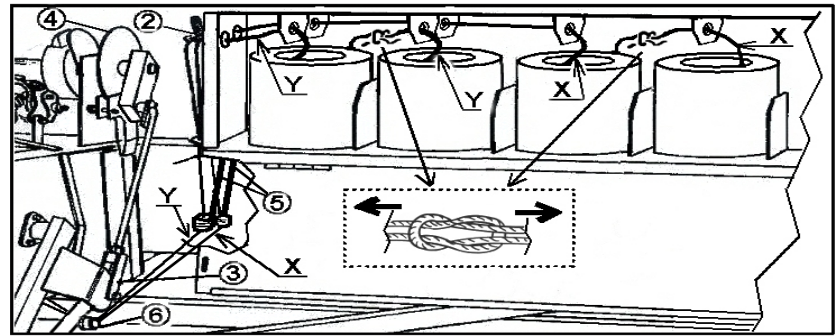
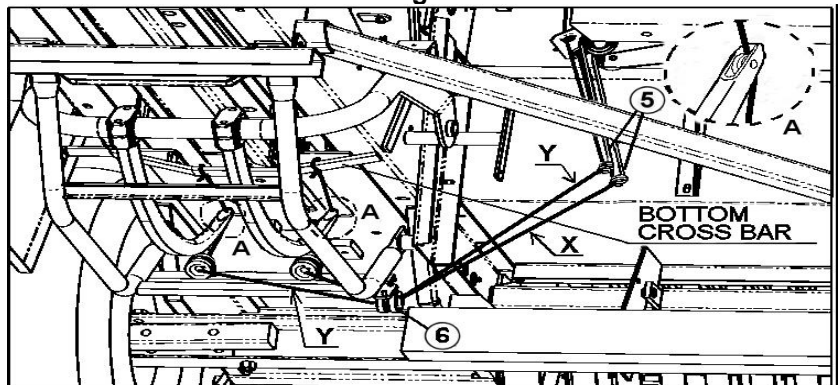

Fig. 2
Fig. 3
1. Insert into the special container, natural twine reels which must be type 180 - 200 meters per kg or plastic twine reels, type 350 meters per kg. Make sure that the reels are located in the container so that by pulling the central end of the twine it unwinds counterclockwise. This will prevent the twine from becoming tangled while it is unwinding. Place the reels and make the joints carefully following the instructions in fig.2.
2. Thread the twine as indicated in Fig. 2 and Fig. 3.
Each twine must come out of the clamp (2 fig.2 / 2 fig.4bis) when subjected to a force $F_1 = 2 \div 3$ kg (fig.2 / fig.4bis) and must slide along its path out of the needle when subjected to a force $F_2 = 10 \div 14$ kg. (fig. 4bis). If necessary adjust the pressure of clamps 2 fig.2 / fig.4bis and the position of springs 5 fig.2 / fig.4bis.
3. Tie the ends of the twine to the bottom cross bar of the compression chamber (Fig. 3).